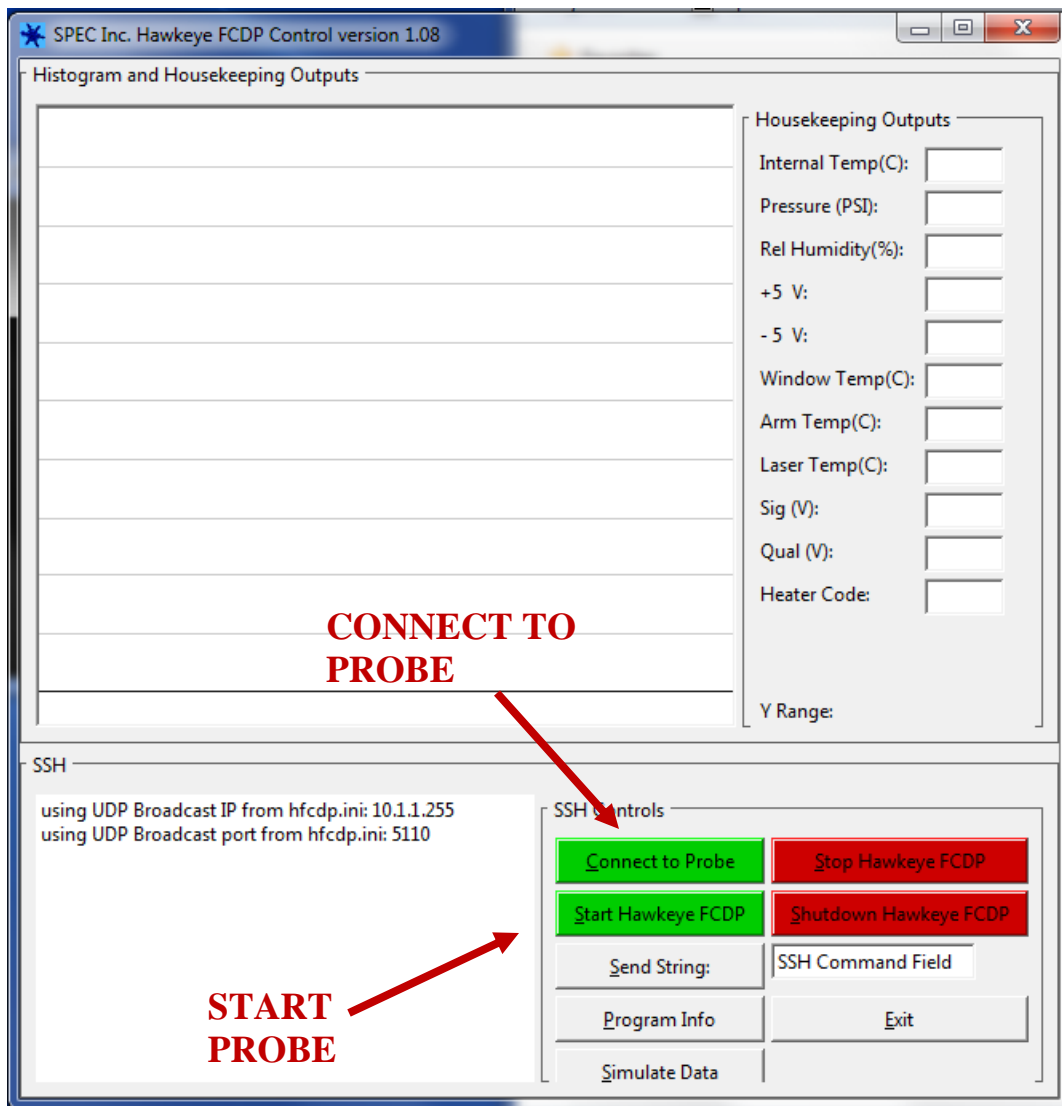

Figure 3.2.1. Startup screen for the FCDP GUI.
1. To initialize the connection between the FCDP GUI and the probe, click the green “Connect to Probe” button shown in Figure 3.2.1. This will connect and time sync the probe.
1. To disconnect from the FCDP, click the “Stop FCDP” button (see **Figure 3.2.1**).